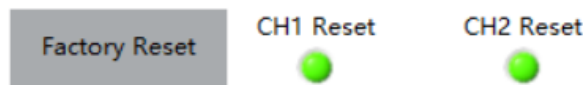

Figure 5.5.9 Restore factory settings
- Click the "Factory Reset" button to erase the original angle programming data inside the chip. (If the chip is being programmed for the first time, this step can be skipped to simplify the operation) After erasing is completed, the "Reset" indicator light will turn green (Figure 5.5.9)